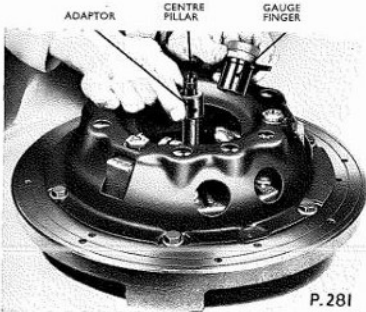

Fig. D.12. Setting up the Churchill Tool 99A to adjust the height of the release levers
1. Screw the pillar firmly into the centre of the base and slide over it, the correct adaptor Code 99A-7 (for the 9.A.6. clutch) or Code 99A-8 (for the 10.A.6 clutch) the recessed face downwards, followed by the gauge finger (see Fig. D.12).